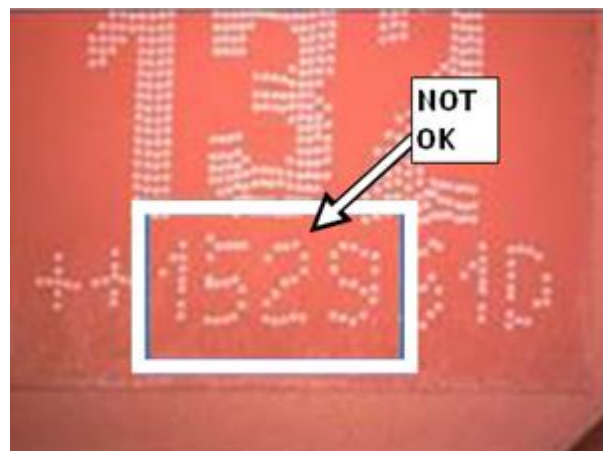

Figure 4 (Not OK) 1529 (15=year, 29=week)
- If relay(s) do **NOT** have date code of: **1529** (arrow, Figure 4) **(OK)**: Reassemble in reverse order, Procedure is complete.
- If relay(s) **have** date code of: **1529** (arrow, Figure 4) **(NOT OK)**: Proceed to **Subject C**.